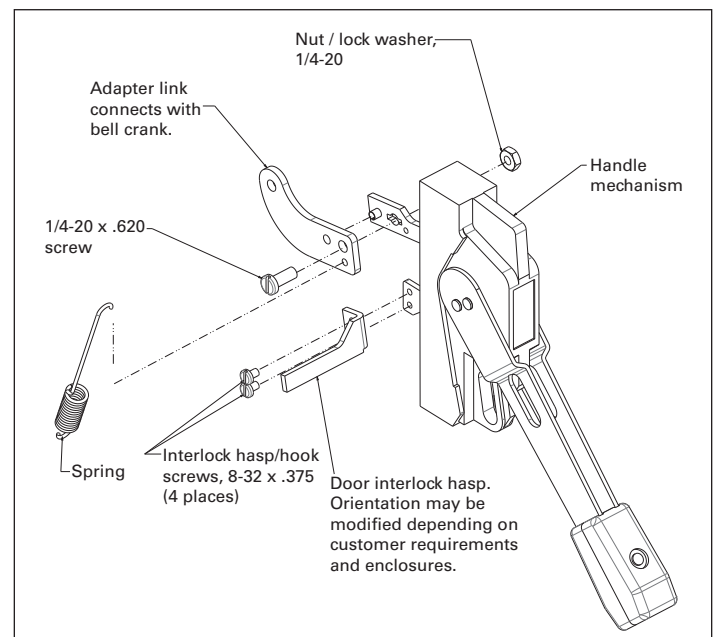

Figure 4. Outer handle mechanism assembly.
7. Mount door interlock hasp to handle using two #8-32 SEMS screws (see Figure 4). Hasp orientation may be modified per customer requirements and enclosures.